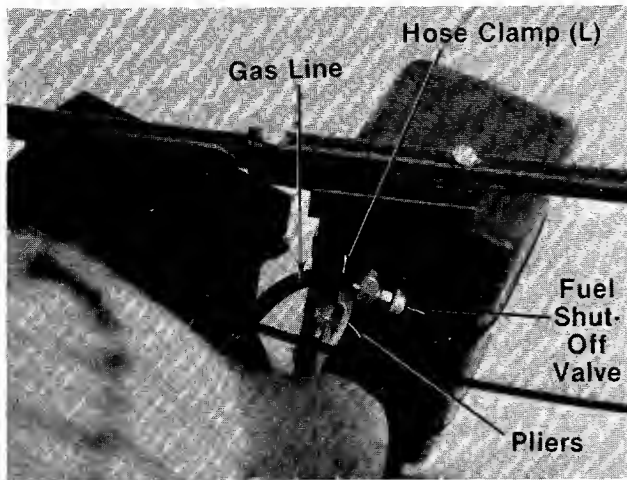

FIGURE 11.
10. With a pair of pliers slip the hose clamp (L) over the end of gas line (already on engine).
← Place end of gas line over fuel shut-off valve (on bottom of tank) and secure with hose clamp (L). See figure 11.